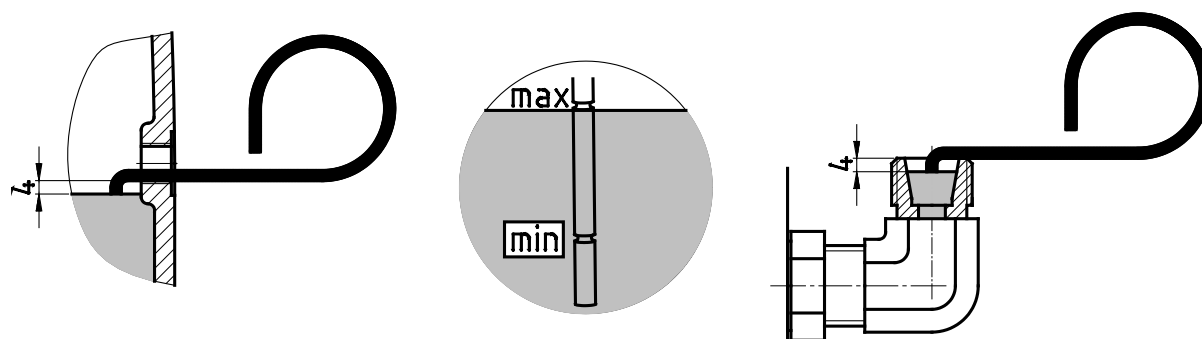

Figure 21: Checking the oil level with a dipstick
- Standard version M4 (V1 and V5) helical gear units have an angled pipe for checking the oil level as shown in Figure 21 (right-hand illustration). This must point vertically upwards. Before checking the oil level, the pressure vent must be unscrewed.
- Check the oil level in the gear unit with the dipstick supplied (Part No.: 283 0050), as shown in Figure 21 (left and right illustration). To do this, the part of the dipstick which is submerged in the oil must be held vertically.
- The oil level in the oil level tank must be checked with the aid of the dipstick plug (thread G1¼). The oil level must be between the upper and lower marking when the dipstick is fully screwed in; see Figure 21 (centre illustration). These gear units may only be operated in the mounting position stated in Section 7.1 "Versions and maintenance".